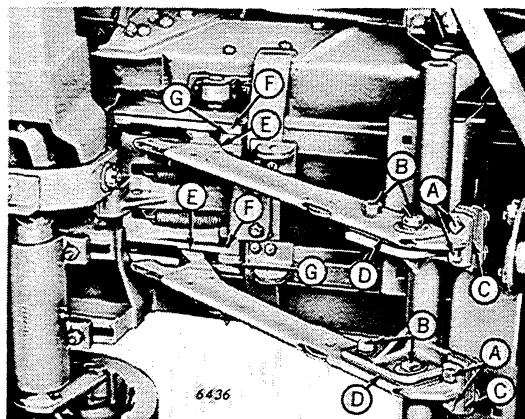

Figure 36
1. Loosen bolts at "B," Figure 36.
3. Add or remove shims "D" between needle and side frame so that side of upper end of needle lays parallel to and against the needle guide shown at "E", Figure 36. *NOTE: There should be no binding of the needles in the guide.*